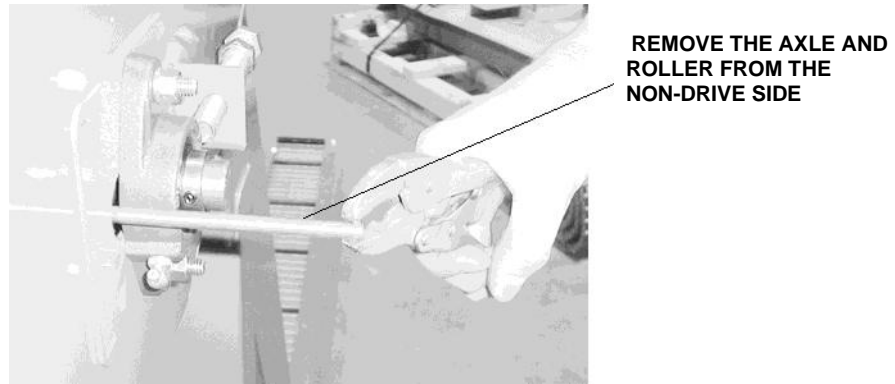

Figure 15: Removing the axle on a metal belt conveyor
9. Remove the axle from the non-drive side as shown in Figure 15. Install the axle and roller back into the top half of the metal belt to avoid loosening the axle, pin, side wings and roller.
10. Remove the axle from the non-drive side as shown in Figure 15. Install the axle and pins, and rollers back into the top half of the metal belt to avoid losing the parts.